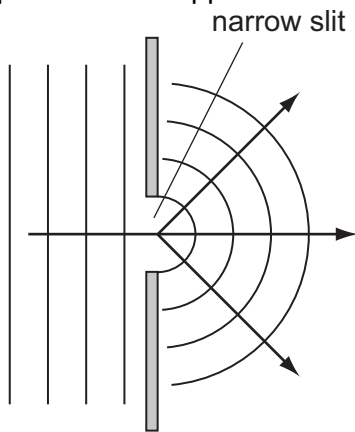
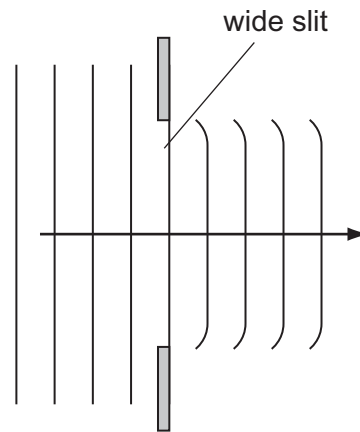

Fig. 3.2
Fig. 3.3
- (b) Fig. 3.2 and Fig. 3.3 show a second property of waves demonstrated by another experiment in a ripple tank.